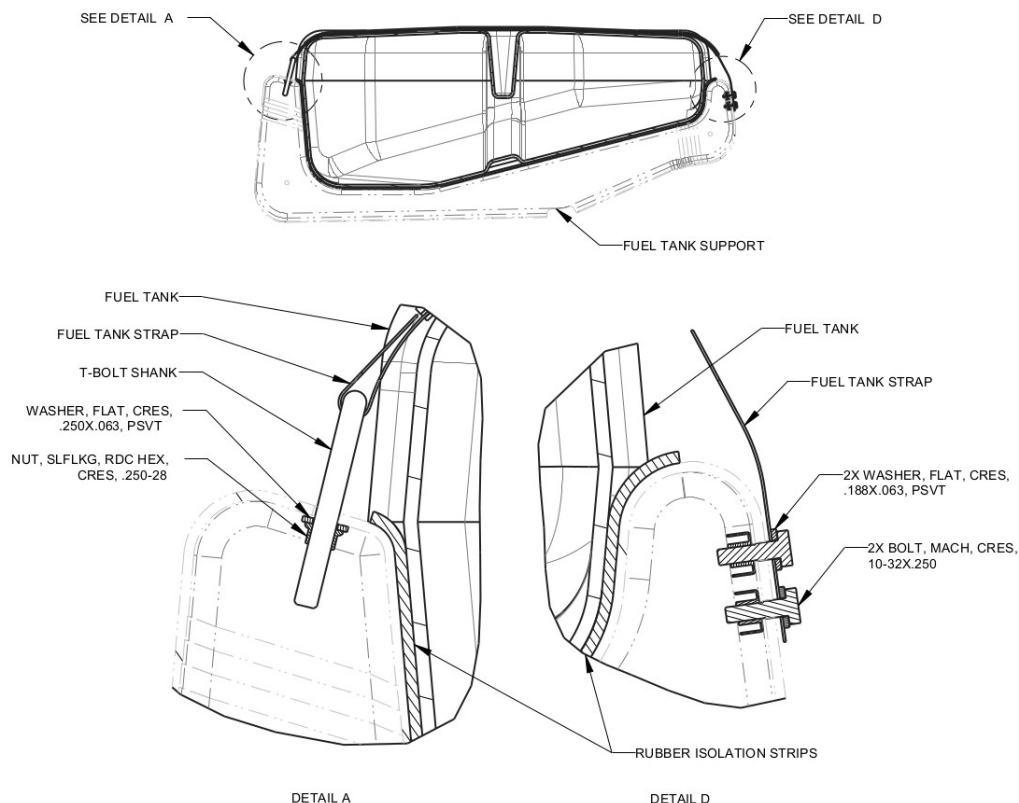

FIGURE 11-6
2. Ensure isolation strips are properly aligned on fuel tank support structure. See Figure 11-6.
4. Attach the fuel tank strap subassemblies to AFT end of fuel tank support brackets using LUBRICANT and hardware. See Figure 11-6. (Detail D.) Torque bolts to 26 in-lb.
5. Loosely secure the forward ends of the fuel tank straps to the fuel tank brackets using LUBRICANT and hardware. See Figure 11-6. (Detail A.)